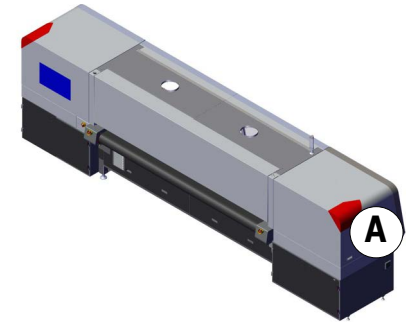

Figure 6-12 Printer Rear View
2. Open carriage compartment door, Figure 6-12 location (A), and go to the printer rear.